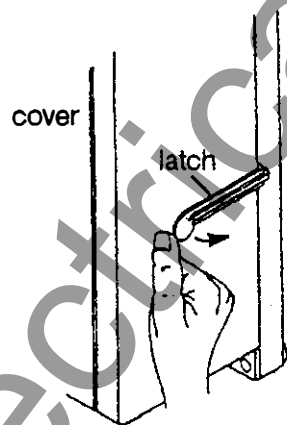

Figure 4-2. Control Panel cover latch.
incremental. Two DIP switches are used; each has eight actuators. See Figures 4-2, 4-3, and 4-4 on page 4-2.
3. Remove the cover from the control panel. Use your thumbs to release both latches. See Figure 4-2.
7. Install the cover on the control panel. Align the cover and push it inward; be sure both cover latches engage the holes in the cover. See Figure 4-2.